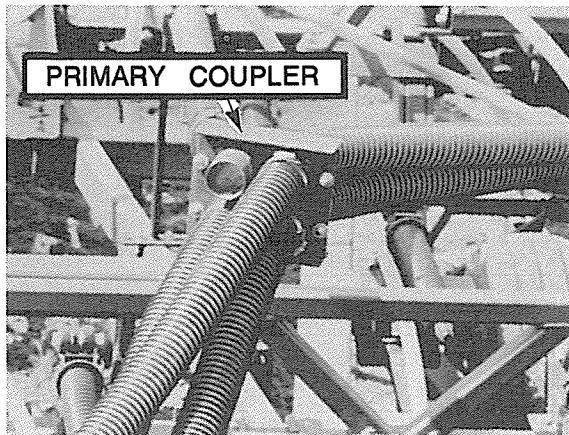

Figure 21
- (n) Connect the Primary Couplers. (See Fig. 21).